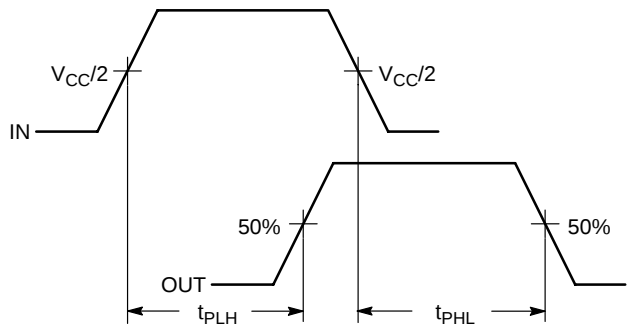

Figure 26. CMOS Input Propagation Delay
**Non-ECL Input and ECL Outputs** – Refer to the device data sheet as several methods are used to measure the output propagation delays. One method specifies the output propagation delays from a non-ECL input fixed voltage to an ECL output 50% point. For example, the output propagation delays for the MC10H352 CMOS to PECL translator are specified between a CMOS input fixed voltage equal to  $V_{CC}/2$  and the ECL output 50% point as shown in Figure 26.